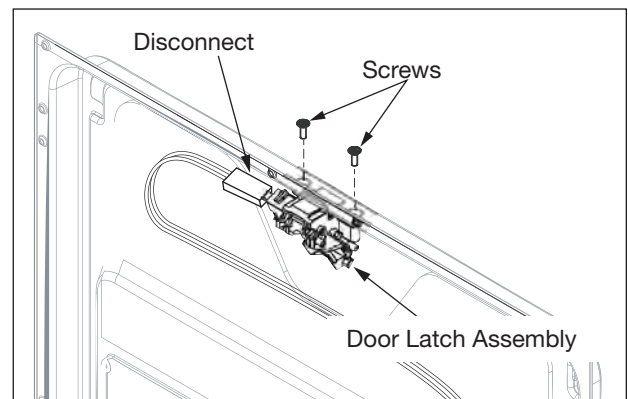

Figure 5-5. Door Latch Assembly Removal
3. Disconnect the wire leads from the door latch assembly terminals. (See Figure 5-5)